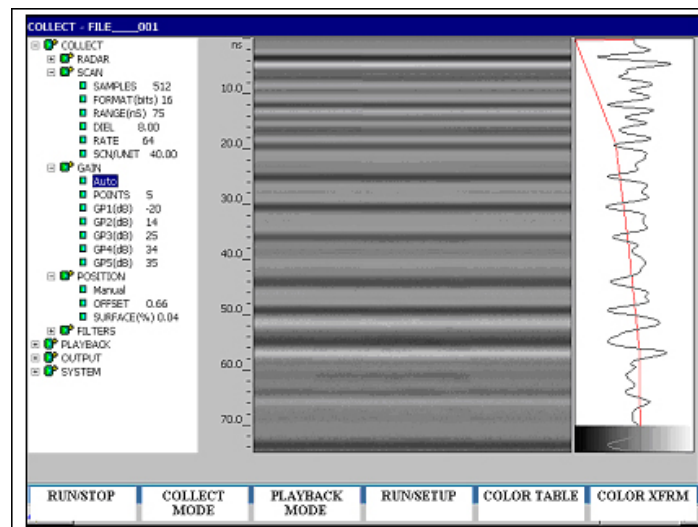

Figure 3: Correctly normalized scan.
4. Toggle the Auto gain servo to Manual and then back to Auto and you will see a better normalized trace (Figure 3).